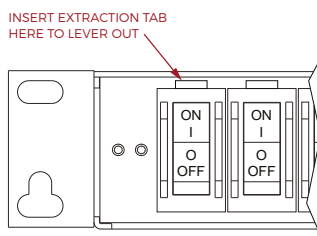

Figure 10. Breaker or blank panel removal
12.2 Removing a breaker or blanking panel. To remove a breaker or blanking panel place the tab at the end of the cover plate under the top edge of the breaker or blanking panel and lever out carefully. See figure 10 below.